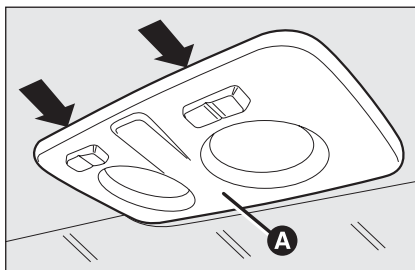
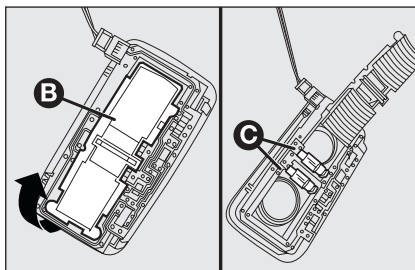

fig. 29
fig. 30
- ☐ work in the points shown by the arrows and remove light **A**-fig. 29;
- ☐ open the protection lid **B**-fig. 30;
- ☐ re-close the lid **B**-fig. 30 and secure light **A**-fig. 29 into its housing locking it properly.